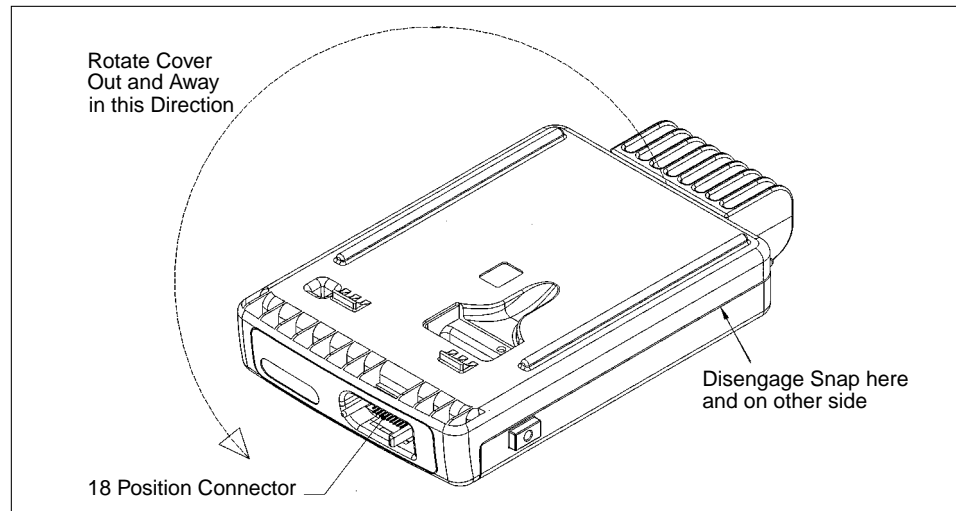

Figure 5-11 Removing the Bottom Cover
4. Insert a wide flat-blade screwdriver or like instrument in the recess area on the side of the radio near the antenna and power connector ends (see Figure 5-11).